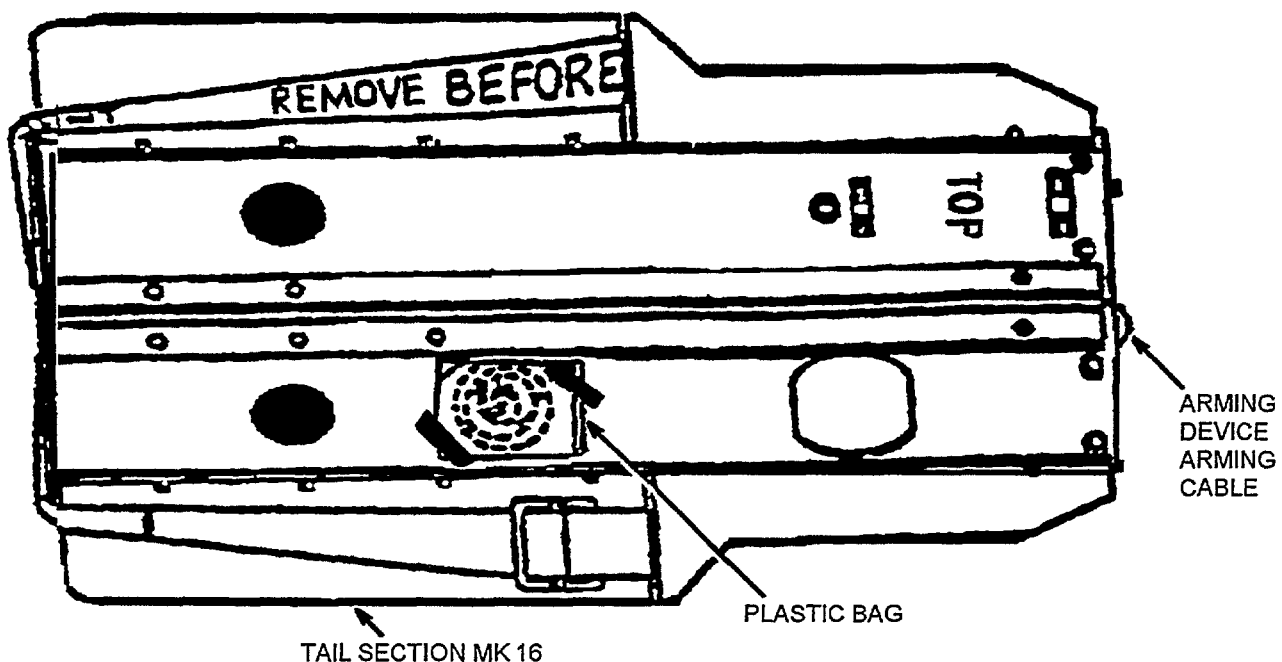

Figure A-8. Arming Device Arming Cable Packaging
- (5) Verify screw flange on safety knob of warning flag assembly is flush against end of control unit assembly. If necessary, hold safety pin, and screw safety knob flush against control unit.
- (6) Verify 8 x 8-inch plastic bag containing coiled arming device arming cable is taped to tail between two fins as shown in Figure A-8.
- (7) Ensure swivel assembly and two lanyard extensions are installed in pockets of warning flag assembly.